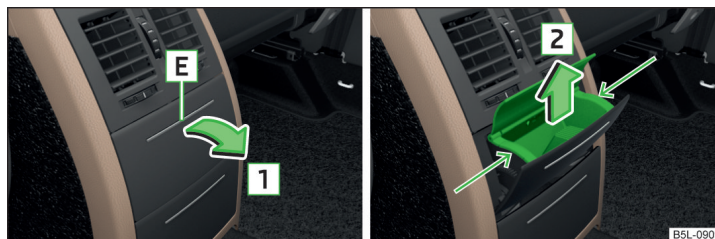

Fig. 80 High centre console: Open rear ashtray / Removing rear ashtray
- To **open**, press on the lid of the glasses compartment in area **E**. The ashtray opens out in the direction of the arrow **1** » Fig. 80.